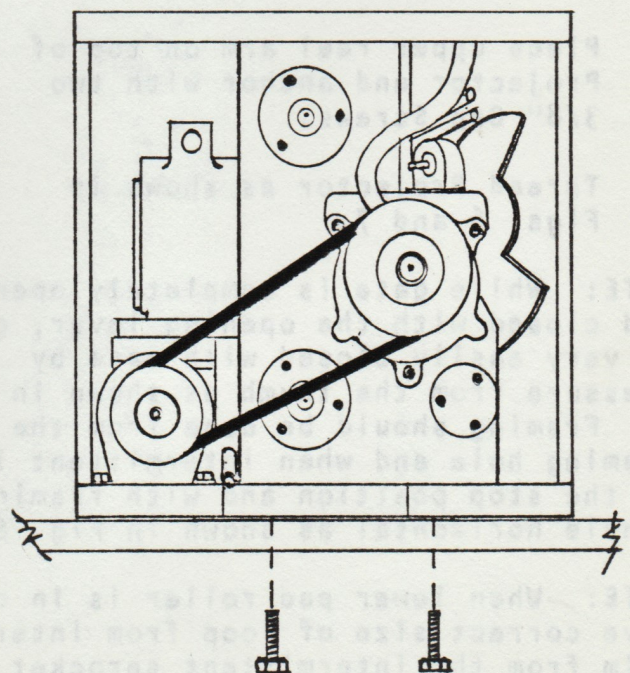

Fig. 3
2. On all other Soundheads place Projector on Soundhead and align the two threaded holes on the drive side of the Projector with the two holes in the Soundhead. (See Fig. 3) Insert 3/8" Allen Screws from Soundhead into Projector and tighten. No alignment other than above is necessary. Do not use oil pans, adjusting bars or any other items supplied with Soundheads.